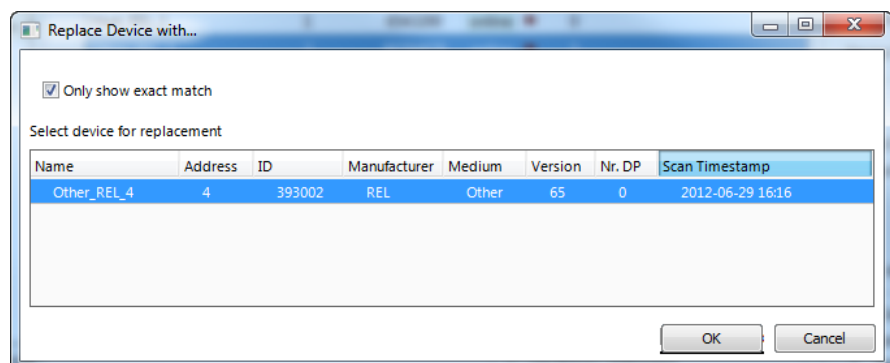

Figure 266: M-Bus Device Replacement Dialog.
5. Select the device which has to be replaced and press the **Replace Device** button. This opens the dialog displayed in Figure 266.